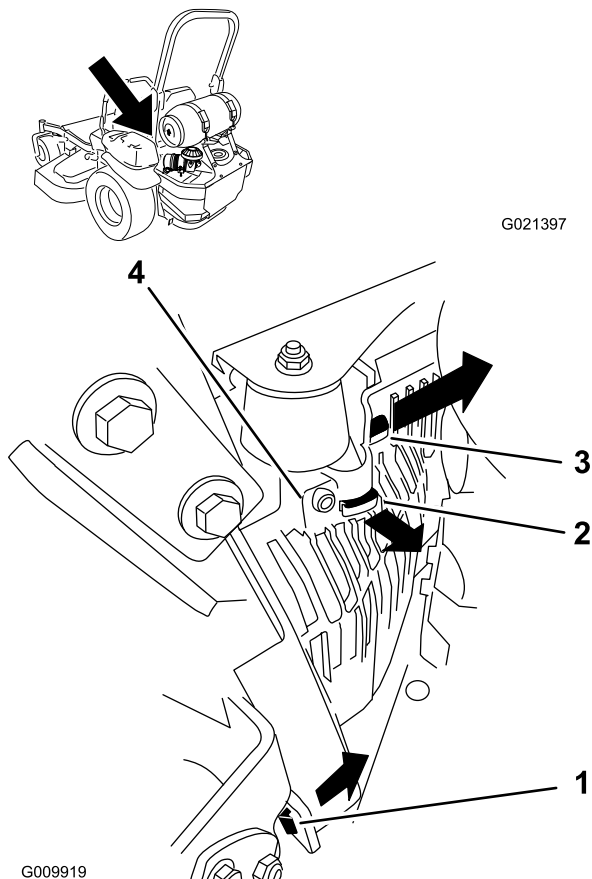

Figure 51
3. Remove the left hydraulic unit shroud in the order listed with Figure 51.
5. Install the left hydraulic unit shroud (Figure 51).